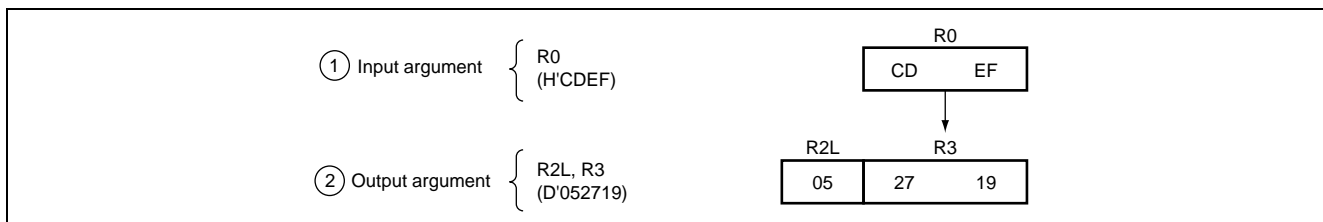

Figure 5.2 Example of HEX Execution
2. Figure 5.2 illustrates the execution of the HEX subroutine. With the input argument set as shown below, the subroutine places the corresponding five-digit BCD number in R2L, R3.